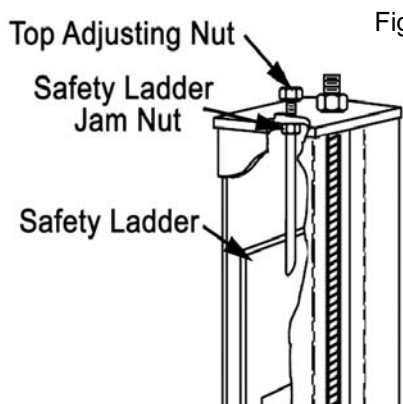

Fig. 2.
10. To complete the leveling procedures, SNUG EACH SAFETY LADDER JAM NUT against the bottom of the column top plate. Torque to 35-45 PSI. (See Fig. 2.)